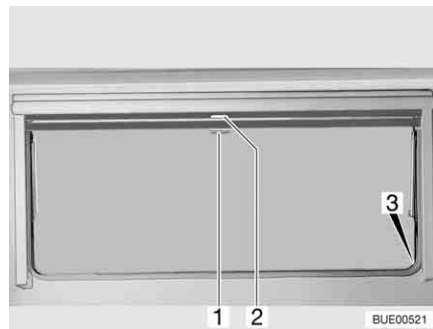

Fig. 70 Hinged window
- Pull blind at the handle (Fig. 70,2) downwards. If the blind is to be completely closed, it is suspended into the locking devices (Fig. 70,3) situated on both sides of the window frame.
- If the blind is completely closed: Press handle (Fig. 70,2) downwards and, at the same time, tilt it slightly inward. The blind can be taken out of the locking devices situated on both sides of the window frame.
- If the blind is in an intermediate position: Pull the handle (Fig. 70,2) slightly downwards until the locking device releases.
- Pull insect screen at the handle (Fig. 70,1) down and hang it into the locking devices (Fig. 70,3) situated on both sides of the window frame.
- Press handle (Fig. 70,1) downwards and, at the same time, tilt it slightly inward. The insect screen can be taken out of the locking devices situated on both sides of the window frame.